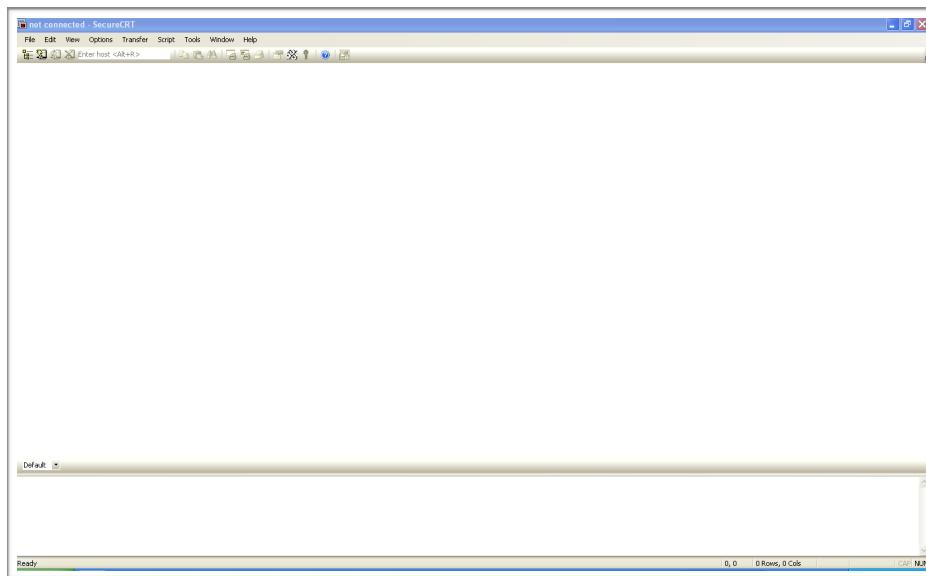

Figure 3-1. Main Interface of SecureCRT
1. Double-click **SecureCRT.exe** to run the application. The system shows the main interface as in Figure 3-1.